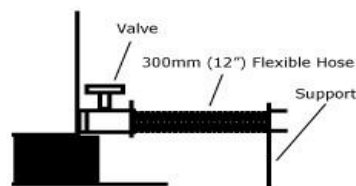

FIGURE 4
- Support all pipe to minimise strain on fitting and tank wall (see figure 4).